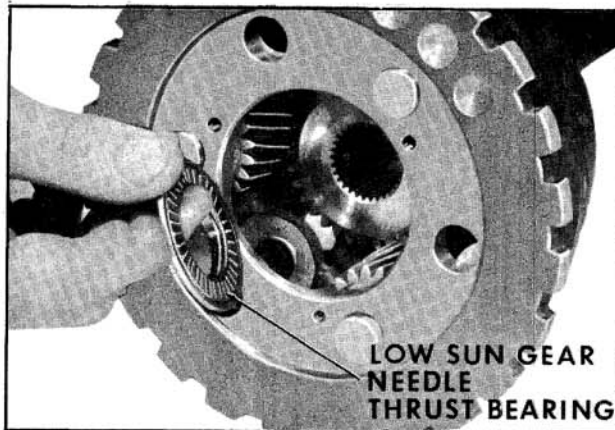

Fig. 6-457 Removing Low Sun Gear Thrust Bearing
5. Remove low sun gear needle thrust bearing. (Fig. 6-457)